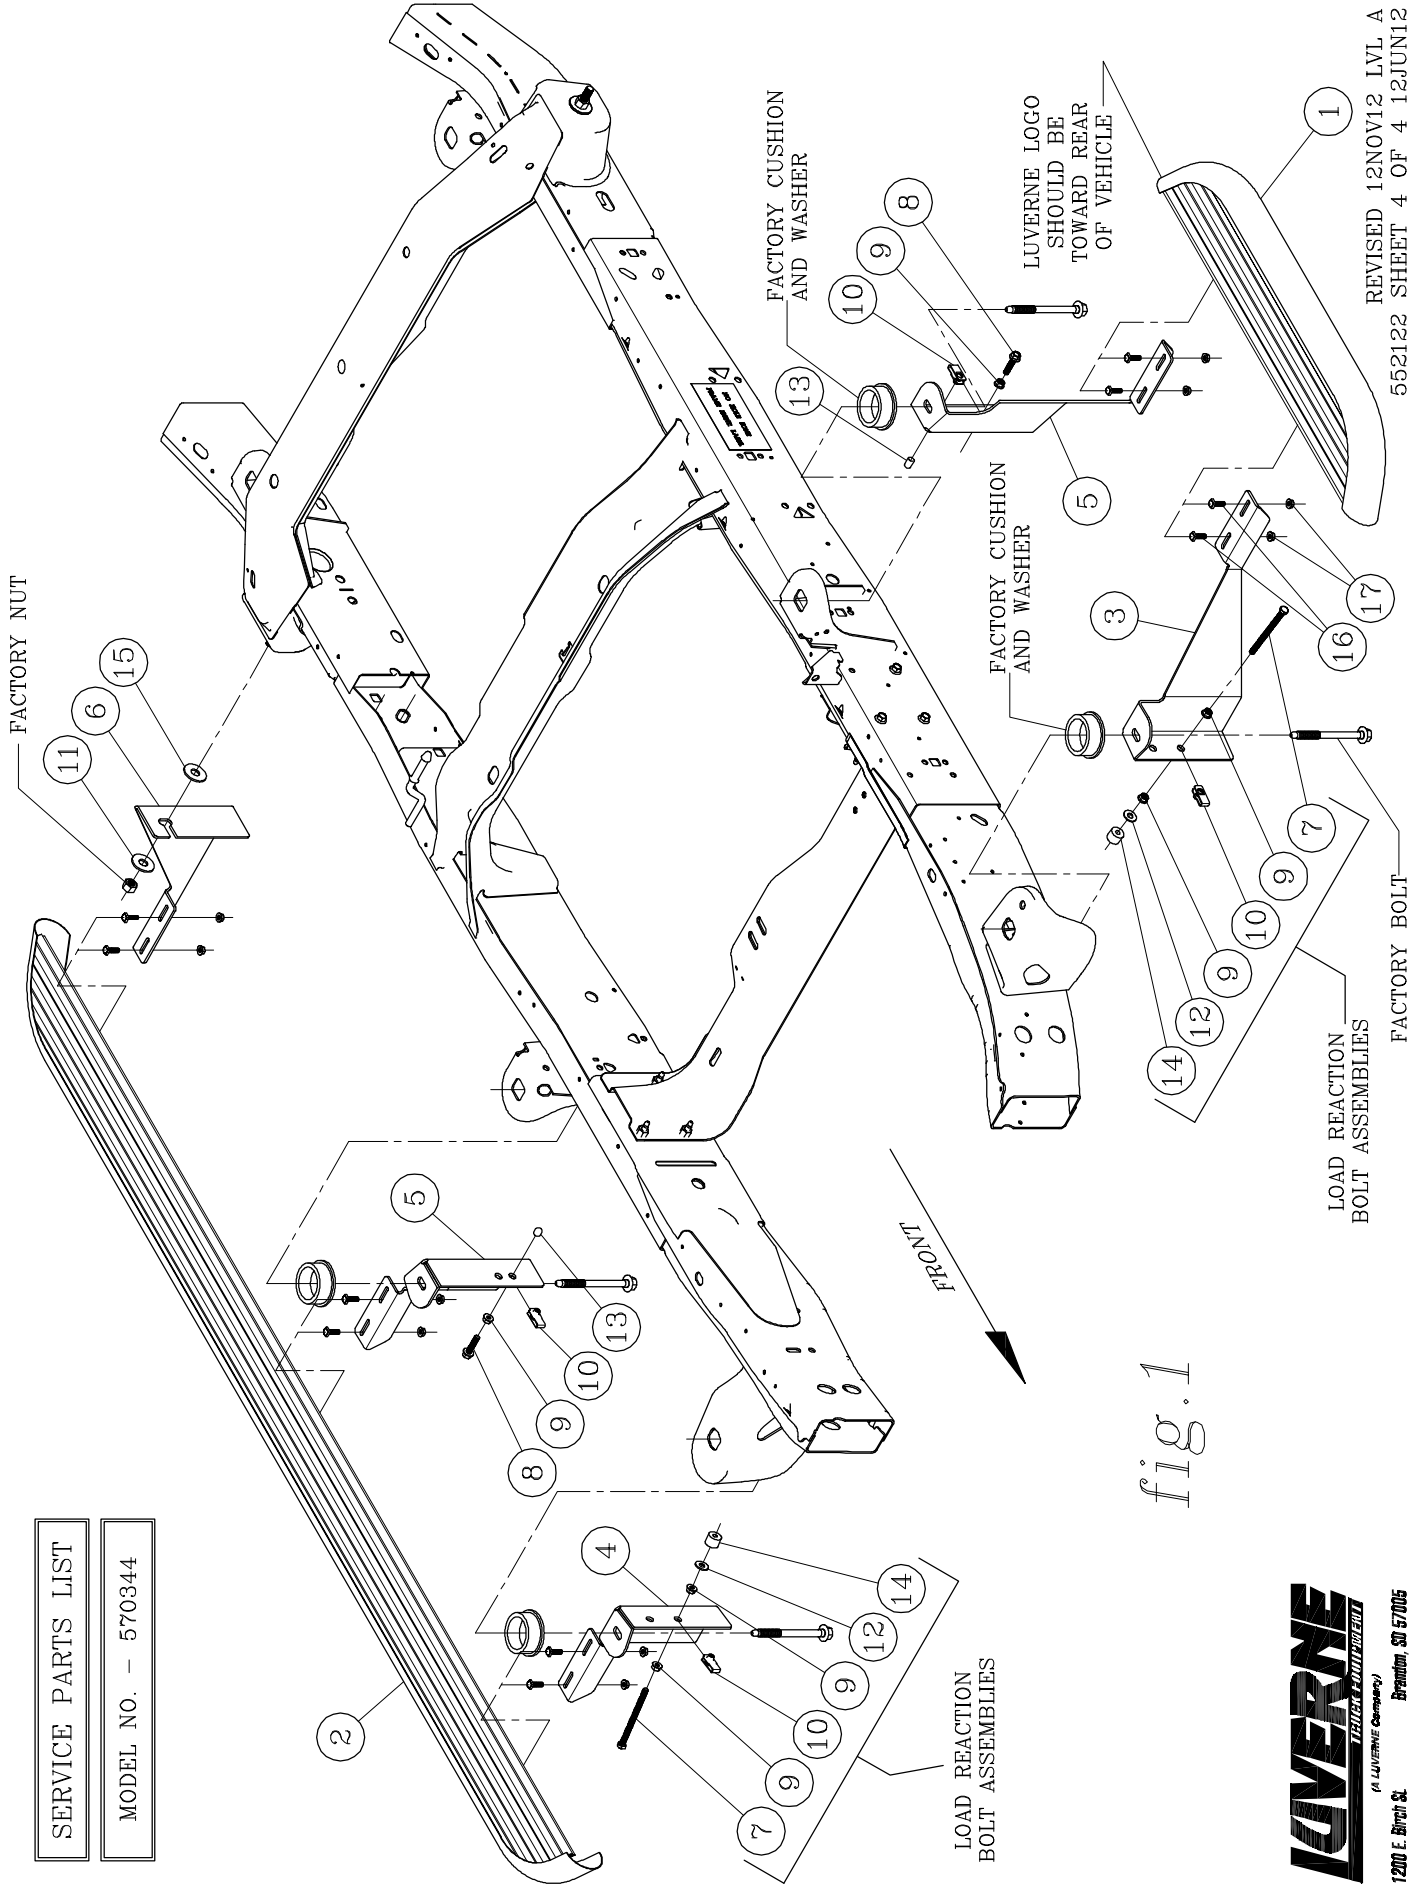

fig. 1
3. BEFORE ATTACHING THE O-MEGA STEPS TO THE BRACKETS, PLACE THE STEP PADS (ITEM #3) ON TOP OF THE STEP PLATES ACCORDINGLY FOR YOUR VEHICLE. USING THE HOLES IN THE STEP PAD AS A GUIDE DRILL (5) 1/8" PILOT HOLES. ATTACH WITH (5) 8-18X1/2" TEK SCREWS (ITEM #7) PROVIDED. REPEAT FOR ALL STEP PADS.
5. INSTALL THE END CAPS (ITEM #4) AS SHOWN IN *fig. 1*, TIGHTENING THE NUTS TO 5 LB FT.
4. INSTALL A 3/8"-16 SERRATED FLANGE NUT (ITEM #9) ON THE 3/8"-16 X 5" HEX BOLT (ITEM #7) WITH THE FLANGE FACING TOWARD THE END OF THE BOLT AND TURN ON JUST SHORT OF THE HEAD. SCREW THE BOLT INTO THE U-NUT AND WHEN IT COMES THROUGH THE OTHER SIDE START ANOTHER FLANGE NUT FACING THE AS THE FIRST NUT. TURN THE NUT ON UNTIL THERE IS 3/4" PROTRUDING FROM THE FACE OF THE NUT, INSTALL A 3/8" FLAT WASHER (ITEM #12) AND THE .354 X 1.00 X .748 RUBBER WASHER (ITEM #14) INTO THE END OF THE BOLT. ADJUST THE LOAD REACTION BOLT ASSEMBLY SO THAT THE RUBBER CUSHION IS SNUG AGAINST THE FRAME AND TIGHTEN DOWN THE OUTSIDE FLANGE NUT. **(LOAD REACTION BOLT ASSEMBLY)** AS SHOWN IN *fig. 1*.
8. INSTALL A 3/8"-16 SERRATED FLANGE NUT (ITEM #9) ON THE 3/8"-16 X 1-3/4" HEX BOLT (ITEM #8) WITH THE FLANGE FACING TOWARD THE END OF THE BOLT AND TURN ON JUST SHORT OF THE HEAD. SCREW THE BOLT INTO THE U-NUT AND WHEN IT COMES THROUGH THE OTHER SIDE ADJUST THE LOAD REACTION BOLT ASSEMBLY SO THAT THE RUBBER PLUG IS SNUG AGAINST THE FRAME AND TIGHTEN DOWN THE OUTSIDE FLANGE NUT. **(LOAD REACTION BOLT ASSEMBLY)** AS SHOWN IN *fig. 1*.
12. INSTALL A 3/8"-16 SERRATED FLANGE NUT (ITEM #9) ON THE 3/8"-16 X 5" HEX BOLT (ITEM #7) WITH THE FLANGE FACING TOWARD THE END OF THE BOLT AND TURN ON JUST SHORT OF THE HEAD. SCREW THE BOLT INTO THE U-NUT AND WHEN IT COMES THROUGH THE OTHER SIDE START ANOTHER FLANGE NUT FACING THE AS THE FIRST NUT. TURN THE NUT ON UNTIL THERE IS 3/4" PROTRUDING FROM THE FACE OF THE NUT, INSTALL A 3/8" FLAT WASHER (ITEM #12) AND THE .354 X 1.00 X .748 RUBBER WASHER (ITEM #14) INTO THE END OF THE BOLT. ADJUST THE LOAD REACTION BOLT ASSEMBLY SO THAT THE RUBBER CUSHION IS SNUG AGAINST THE FRAME AND TIGHTEN DOWN THE OUTSIDE FLANGE NUT. **(LOAD REACTION BOLT ASSEMBLY)** AS SHOWN IN *fig. 1*.
16. INSTALL A 3/8"-16 SERRATED FLANGE NUT (ITEM #9) ON THE 3/8"-16 X 1-3/4" HEX BOLT (ITEM #8) WITH THE FLANGE FACING TOWARD THE END OF THE BOLT AND TURN ON JUST SHORT OF THE HEAD. SCREW THE BOLT INTO THE U-NUT AND WHEN IT COMES THROUGH THE OTHER SIDE ADJUST THE LOAD REACTION BOLT ASSEMBLY SO THAT THE RUBBER PLUG IS SNUG AGAINST THE FRAME AND TIGHTEN DOWN THE OUTSIDE FLANGE NUT. **(LOAD REACTION BOLT ASSEMBLY)** AS SHOWN IN *fig. 1*.